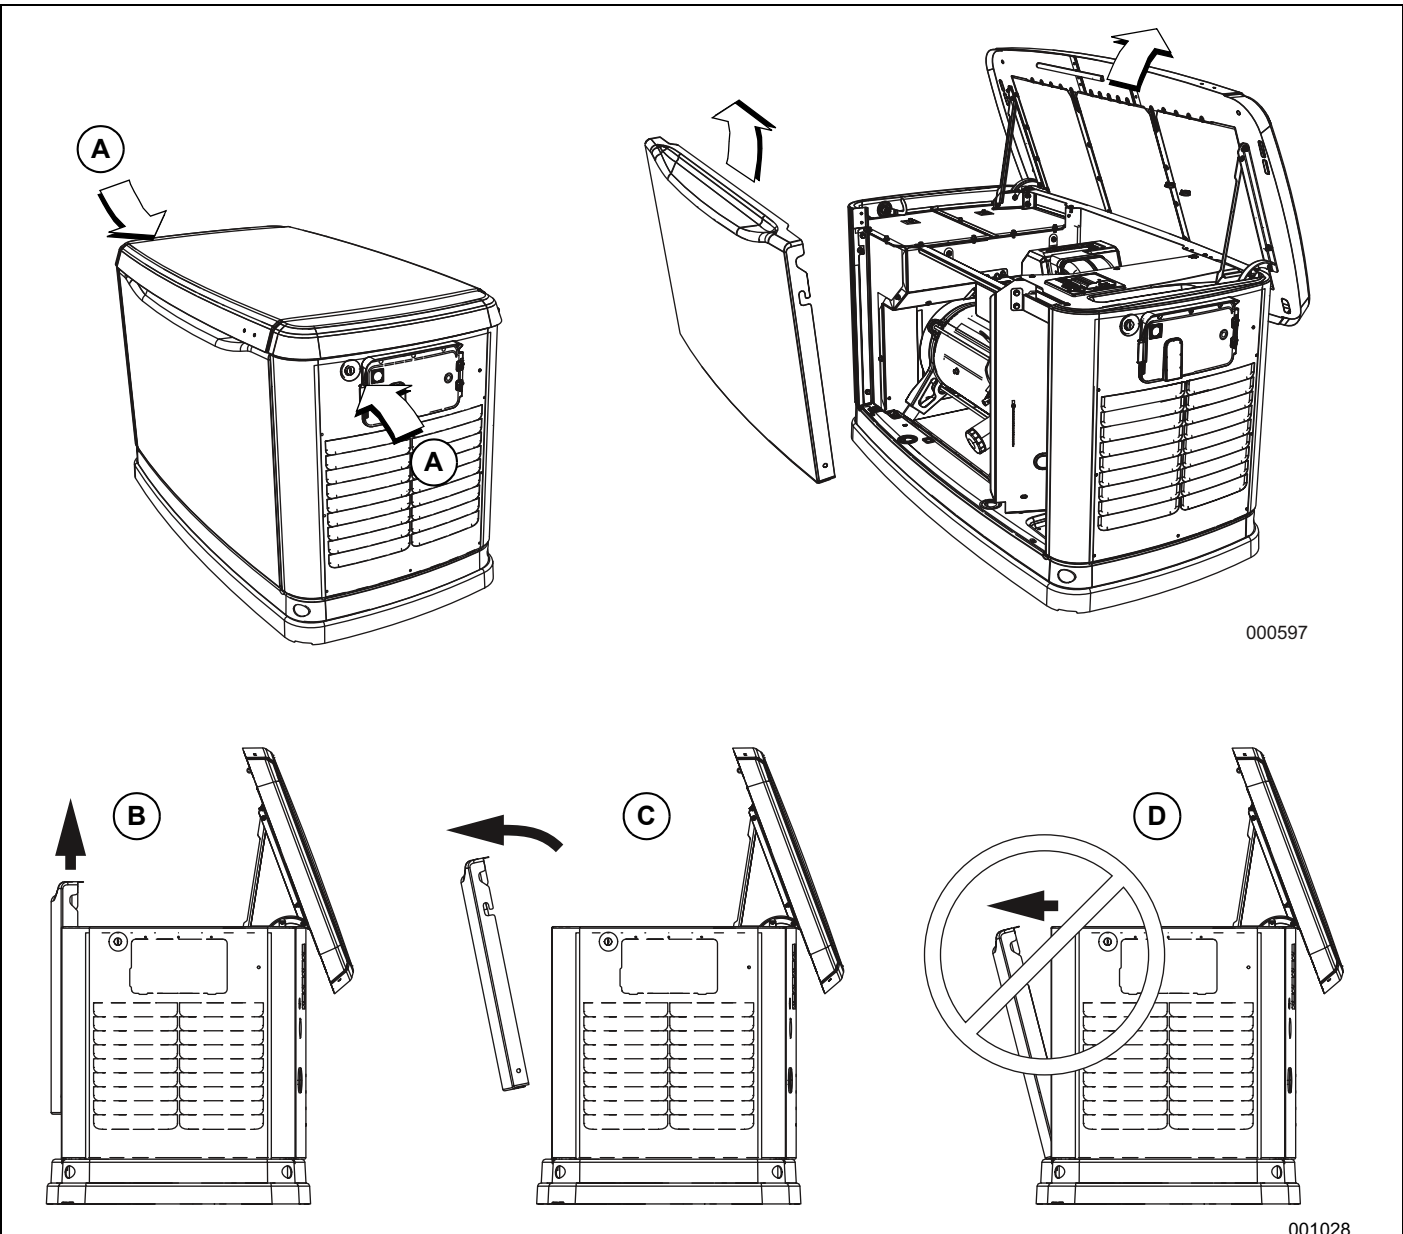

Figure 3-3. Side Lock Location and Front Panel Removal
3. There are two locks securing the lid, one on each side (A in Figure 3-3). To properly open the lid, press down, on the lid, above the side lock and unlock the latch.
NOTE: Always lift the front access panel up before pulling away from enclosure (B and C in Figure 3-3). Do not pull the panel away from the enclosure before lifting up (D in Figure 3-3).